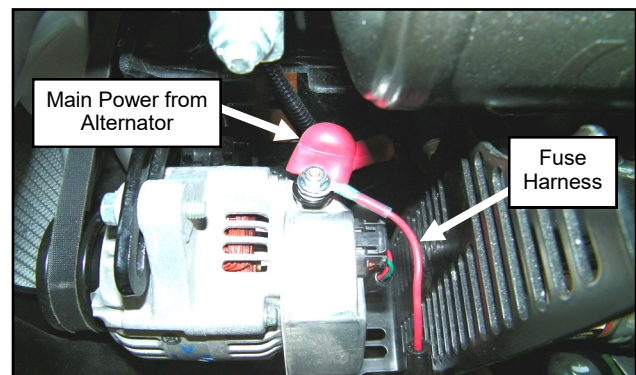

Fig. 7.5 (Connect Fuse Harness to Alternator)
- 7.5 Locate the fuse harness (WH-GF). Make certain the fuse is installed in the fuse holder, unbolt the main power cable attached to the alternator and re-secure with the ring terminal on the fuse harness. See Figure 7.5